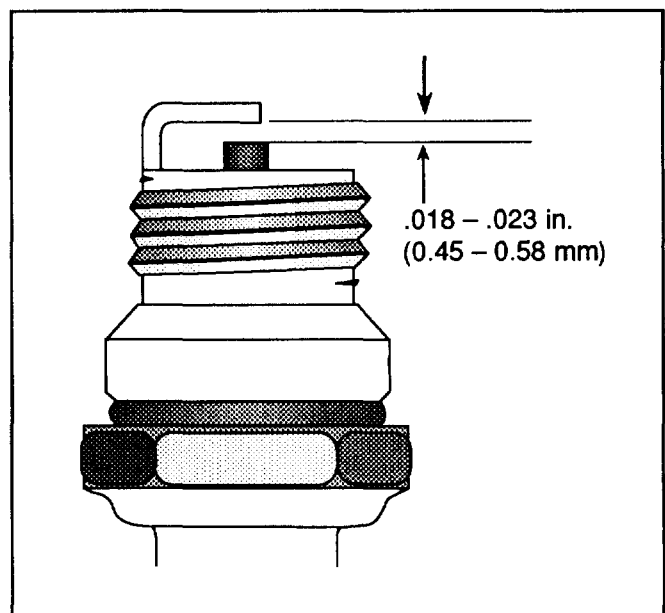

Fig. 26
3. Set air gap at .018 – .023 in. (0.45 – 0.58 mm) (Fig. 26). Install correctly gapped spark plug and gasket seal. Tighten plug firmly to 110-120 in. lb (12.4-13.6 Nm).